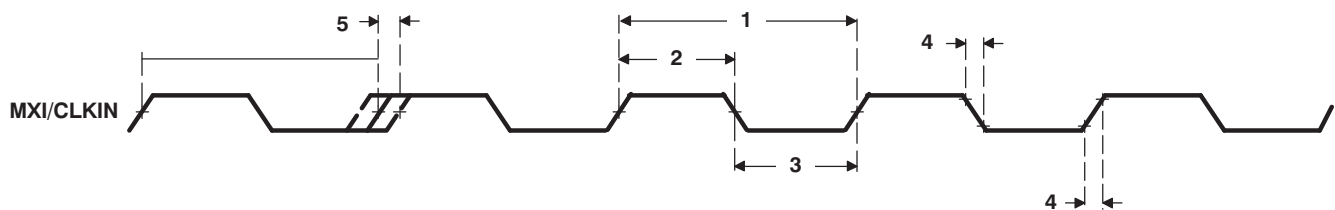

**Figure 5-7. MXI1/CLKIN1 Timing**
**Table 5-5. Timing Requirements for MXI1/CLKIN1(1) (2) (see Figure 5-7)**
**Table 5-6. Timing Requirements for MXI2/CLKIN2(1) (2) (see Figure 5-7)**